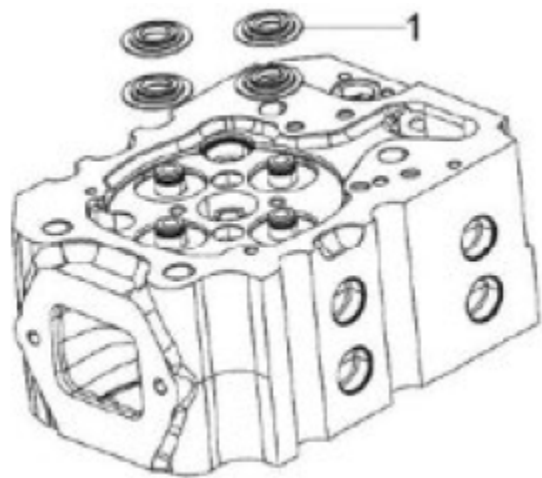

Figure 60. Valve Spring Retainer
2. Oil the lip of the valve stem seal (Figure 60, Item 2). Using the valve stem seal installation tool (Figure 60, Item 1), install a new valve stem seal on each of the valve guides.